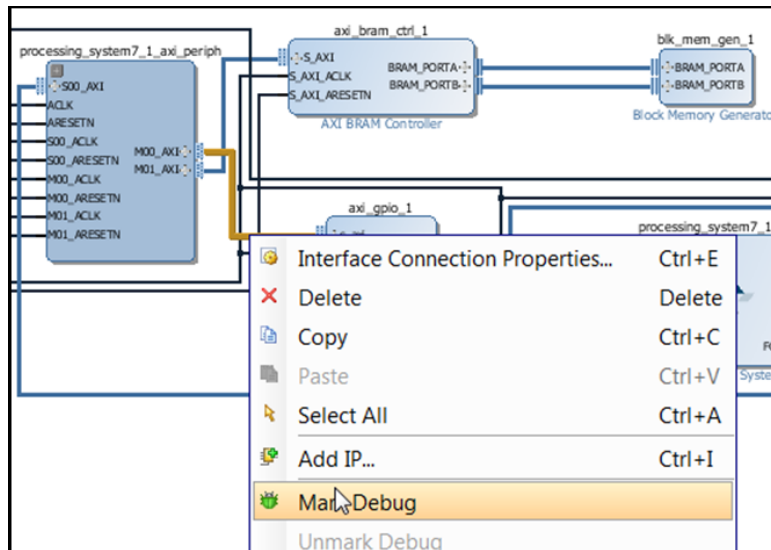

Figure 20: Mark Debug Option
1. To debug the interface between the AXI Interconnect IP named `processing_system7_1_axi_periph` and the GPIO core (named `axi_gpio_1`), select the interface, then right-click and select **Mark Debug** (Figure 20).